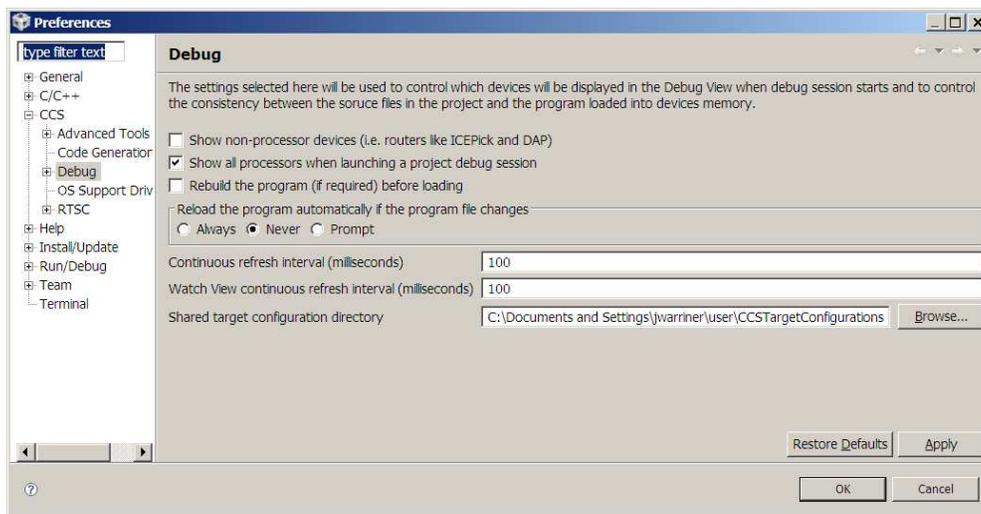

Figure 6. Continuous Refresh Interval Configuration
8. In the Preferences setup window, expand CCS and click on Debug. The window in Figure 6 will appear.